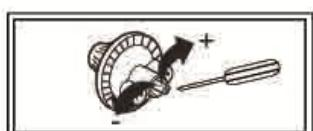

Fig.10
- 2- Open up until reached necessary quantity by screwing clockwise the needle valve of the dispenser. (Fig.10)